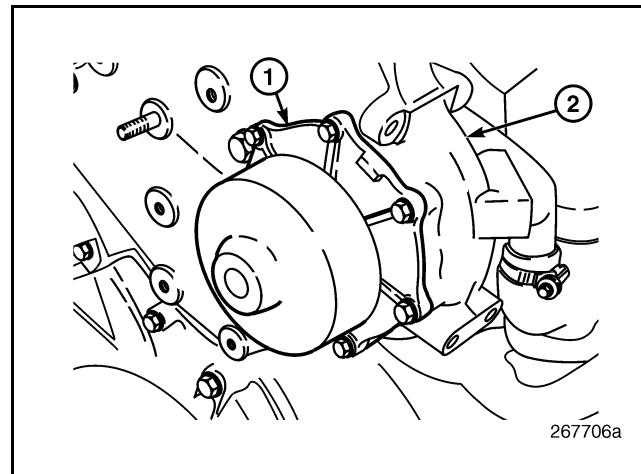

Figure 475 — Water Pump Cartridge
2. Remove the seven mounting capscrews and remove the pump impeller assembly from the water pump housing (Figure 475). Discard the O-ring.